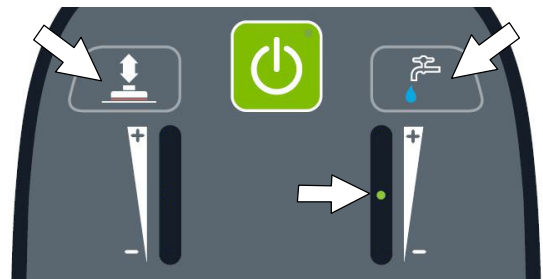

FIG. 154
4. To save the selected mode, press and hold the brush pressure button and the solution flow button together until the LED turns solid, approximately 3 seconds (Figure 154).